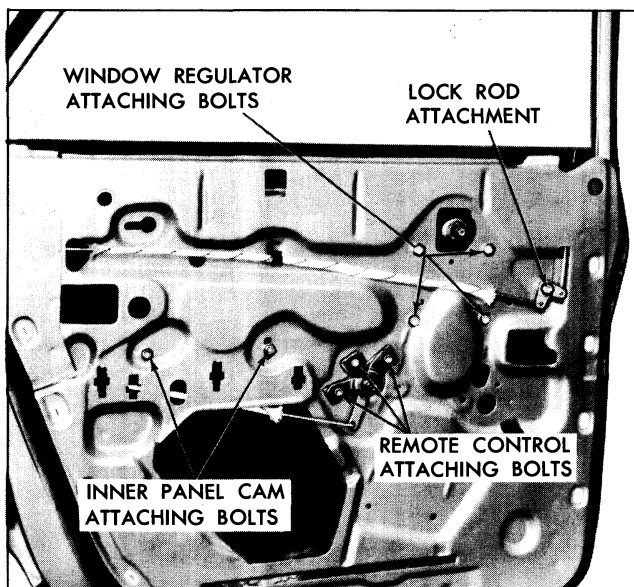

Fig. 3-48 Rear Door Hardware
1. Raise window, remove door trim pad and detach inner panel water deflector sufficiently to expose inner panel cam attaching bolts (Fig. 3-48).
2. Remove rear door window inner panel cam (Fig. 3-48).
3. Remove window inner panel cam (Fig. 3-48).